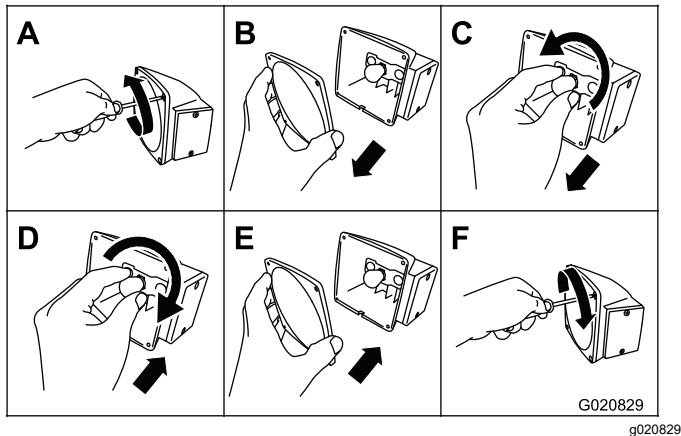

Figure 55
1. Use a screwdriver to remove the 4 screws from the large square lens on the light (Figure 55).
2. Remove the lens (Figure 55).
3. Push and twist the bulb counterclockwise to remove it from the socket (Figure 55).
4. Push a new 1157 bulb into the socket and then twist it clockwise (Figure 55).
5. Install the lens and the 4 screws (Figure 55).